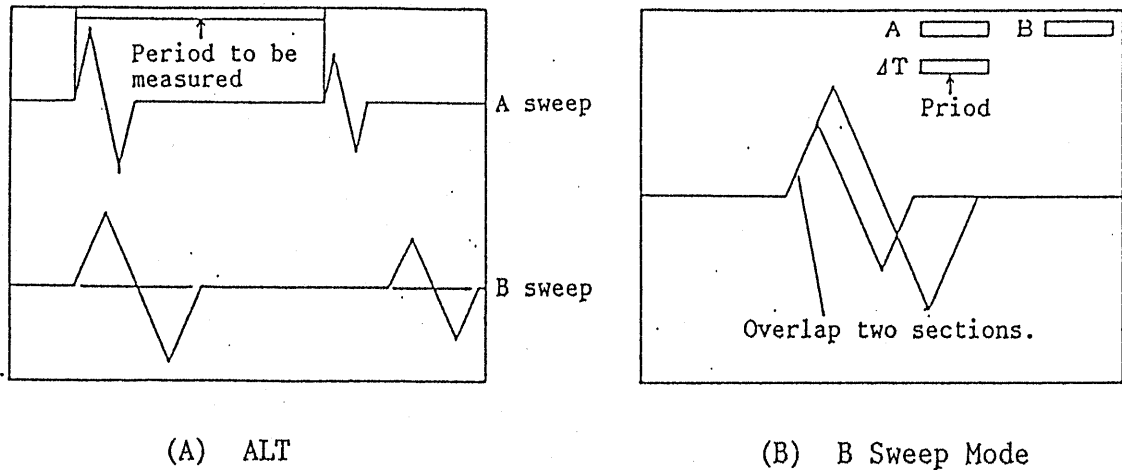

Figure 4-7. Time Interval (Period) Measurement with Delayed Sweep
- (1) Display the waveform on the CRT by adjusting the VOLTS/DIV, A TIME/DIV, and POSITION.
- (2) Set the HORIZ MODE (36) to ALT. Operate sweep in the continuous delay mode by releasing from the B TRIG mode.
- (3) Set the CURSOR SW (31) to  $\Delta T$ . An A-sweep waveform with two intensity modulated sections and a B-sweep waveform with sections representing the same intensity-modulated sections but with delayed timings will appear on the CRT. (See Figure 4-7 A.)
- (4) With the RREADOUT control (33), move the two intensity-modulated sections to the positions between which the time interval is to be measure. It also is possible to move the two intensity-modulated sections in a tracking mode keeping the distance between them unaltered.
- (5) Pull out the A-B TIME/DIV (16) and set the B sweep time for more fine viewing of the measuring points on the delayed B sweep. Now you may set the HORIZ MODE (36) to the B sweep mode so that the B-sweep waveform alone is displayed. When in the B sweep mode, you may employ the  $\times 10$  MAG function.
- (6) By adjusting the READOUT control (33), overlap the two measuring points on the B sweep waveform. (See Figure 4-7 B.)
- (7) The time interval measured as above will be displayed on the CRT read-out.